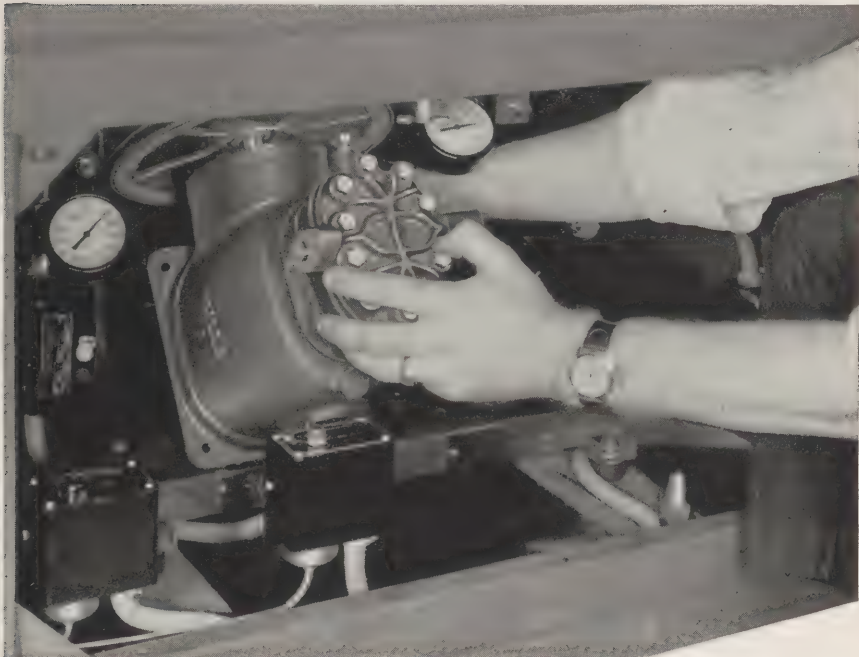

Figure 44. Removing compressor.
- (3) Remove belt. (See par 56.)
- (4) Remove the 4 screws, SR01013, from the base of the compressor.
- (5) Remove the compressor with flywheel attached through front of cabinet (fig 44).